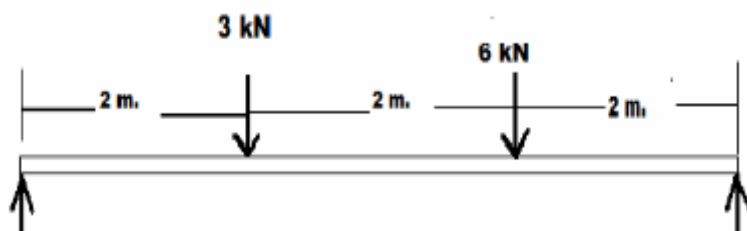

FIG. NO.2
- (b) As shown in FIG. NO. 2. a simply supported beam 6 m long is subjected to two point loads of 3 kN and 6 kN each at distances of 2 m. and 4 m. from the left end. Draw S.F. and B. M. diagrams for the beam **07**